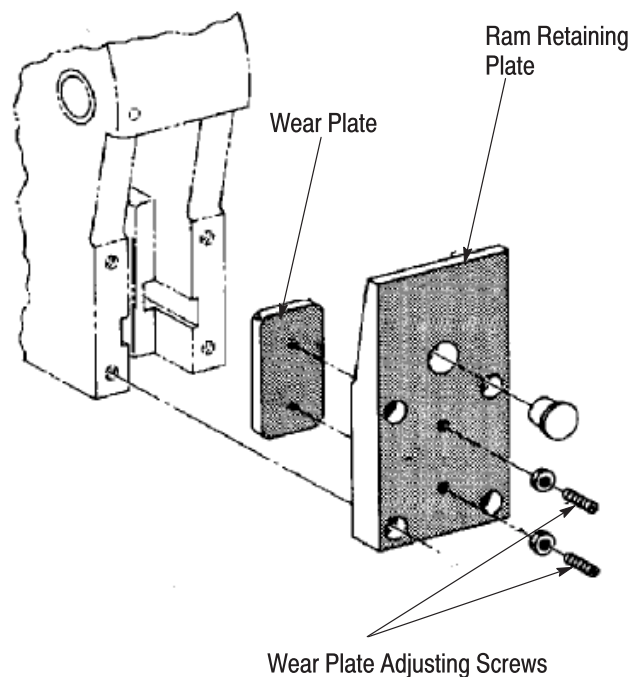

Figure 10
1. Tighten the two wear plate adjusting screws until the ram cannot be moved when the machine is hand-cycled. Refer to Figure 10.